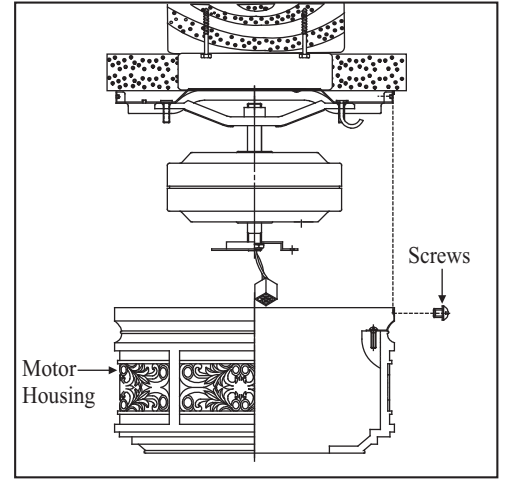

Figure 8
2. Secure the motor housing to the mounting bracket with four screws included with your fan. (Fig. 8) Be sure to tighten all screws.